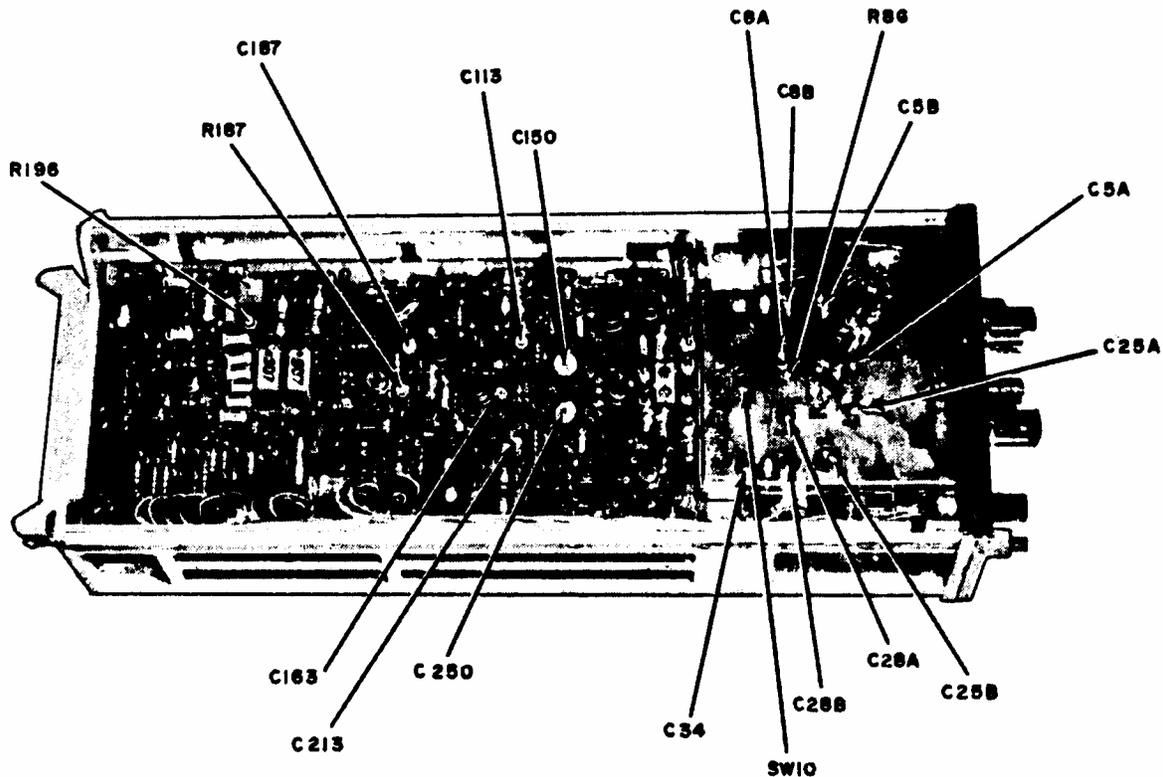

Figure 1. Adjustment locations - left side view (Type 7A13).
- (1) + and - polarity pushbuttons out.
- (2) **VOLTS/DIV** switch to 10 mV and **VOLTS/DIV VARIABLE** control to **CAL** (detent).
- (3) **+INPUT** and **-INPUT** pushbuttons to **GND**.
- (4) **VOLTS** counter set to 0.000 (cw 0.000 for TI's with electrical counter).
- (5) **PULL VOLTS/DIV VAR FOR X10 Vc** control pushed in.
- (6) **VAR BAL** control to midrange.
- (7) **BW** pushbutton to 5 MHz.
- (8) **POSITION** control to midrange.
- (9) **X10 BAL** control to midrange.
- (10) **STEP ATTEN BAL** control to midrange.
- (11) **SW 10** switch (fig. 1) fully ccw (R in = 1 M $\Omega$ ).
Test instrument VOLTS/DIV switch settings	Adjustments (fig. 1)